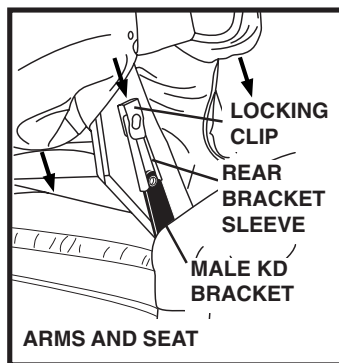

Figure 3. Sleeve and Bracket Connections
2. Slide the left and right rear bracket sleeves of the chair back onto the male brackets on the arms and seat of the chair. See figure 3.